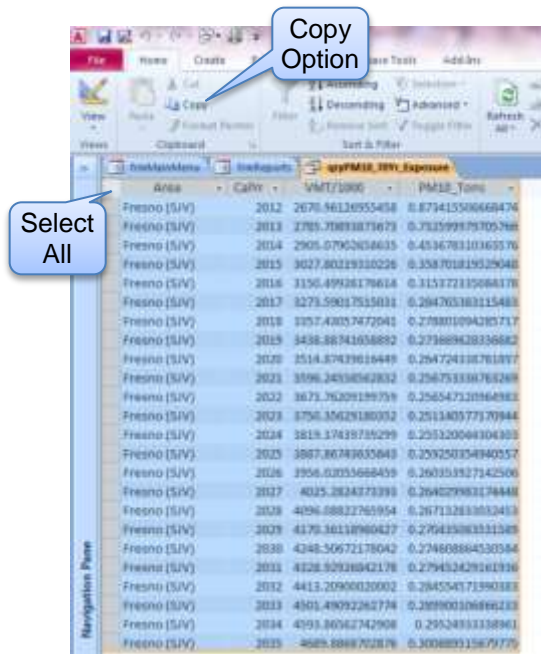

Figure 6-10 PM10 Annual & VMT Data
- Copy the data by holding down the “Ctrl” key while pressing the “C” key or by clicking the Copy option from “Home” ribbon, see Figure 6-10